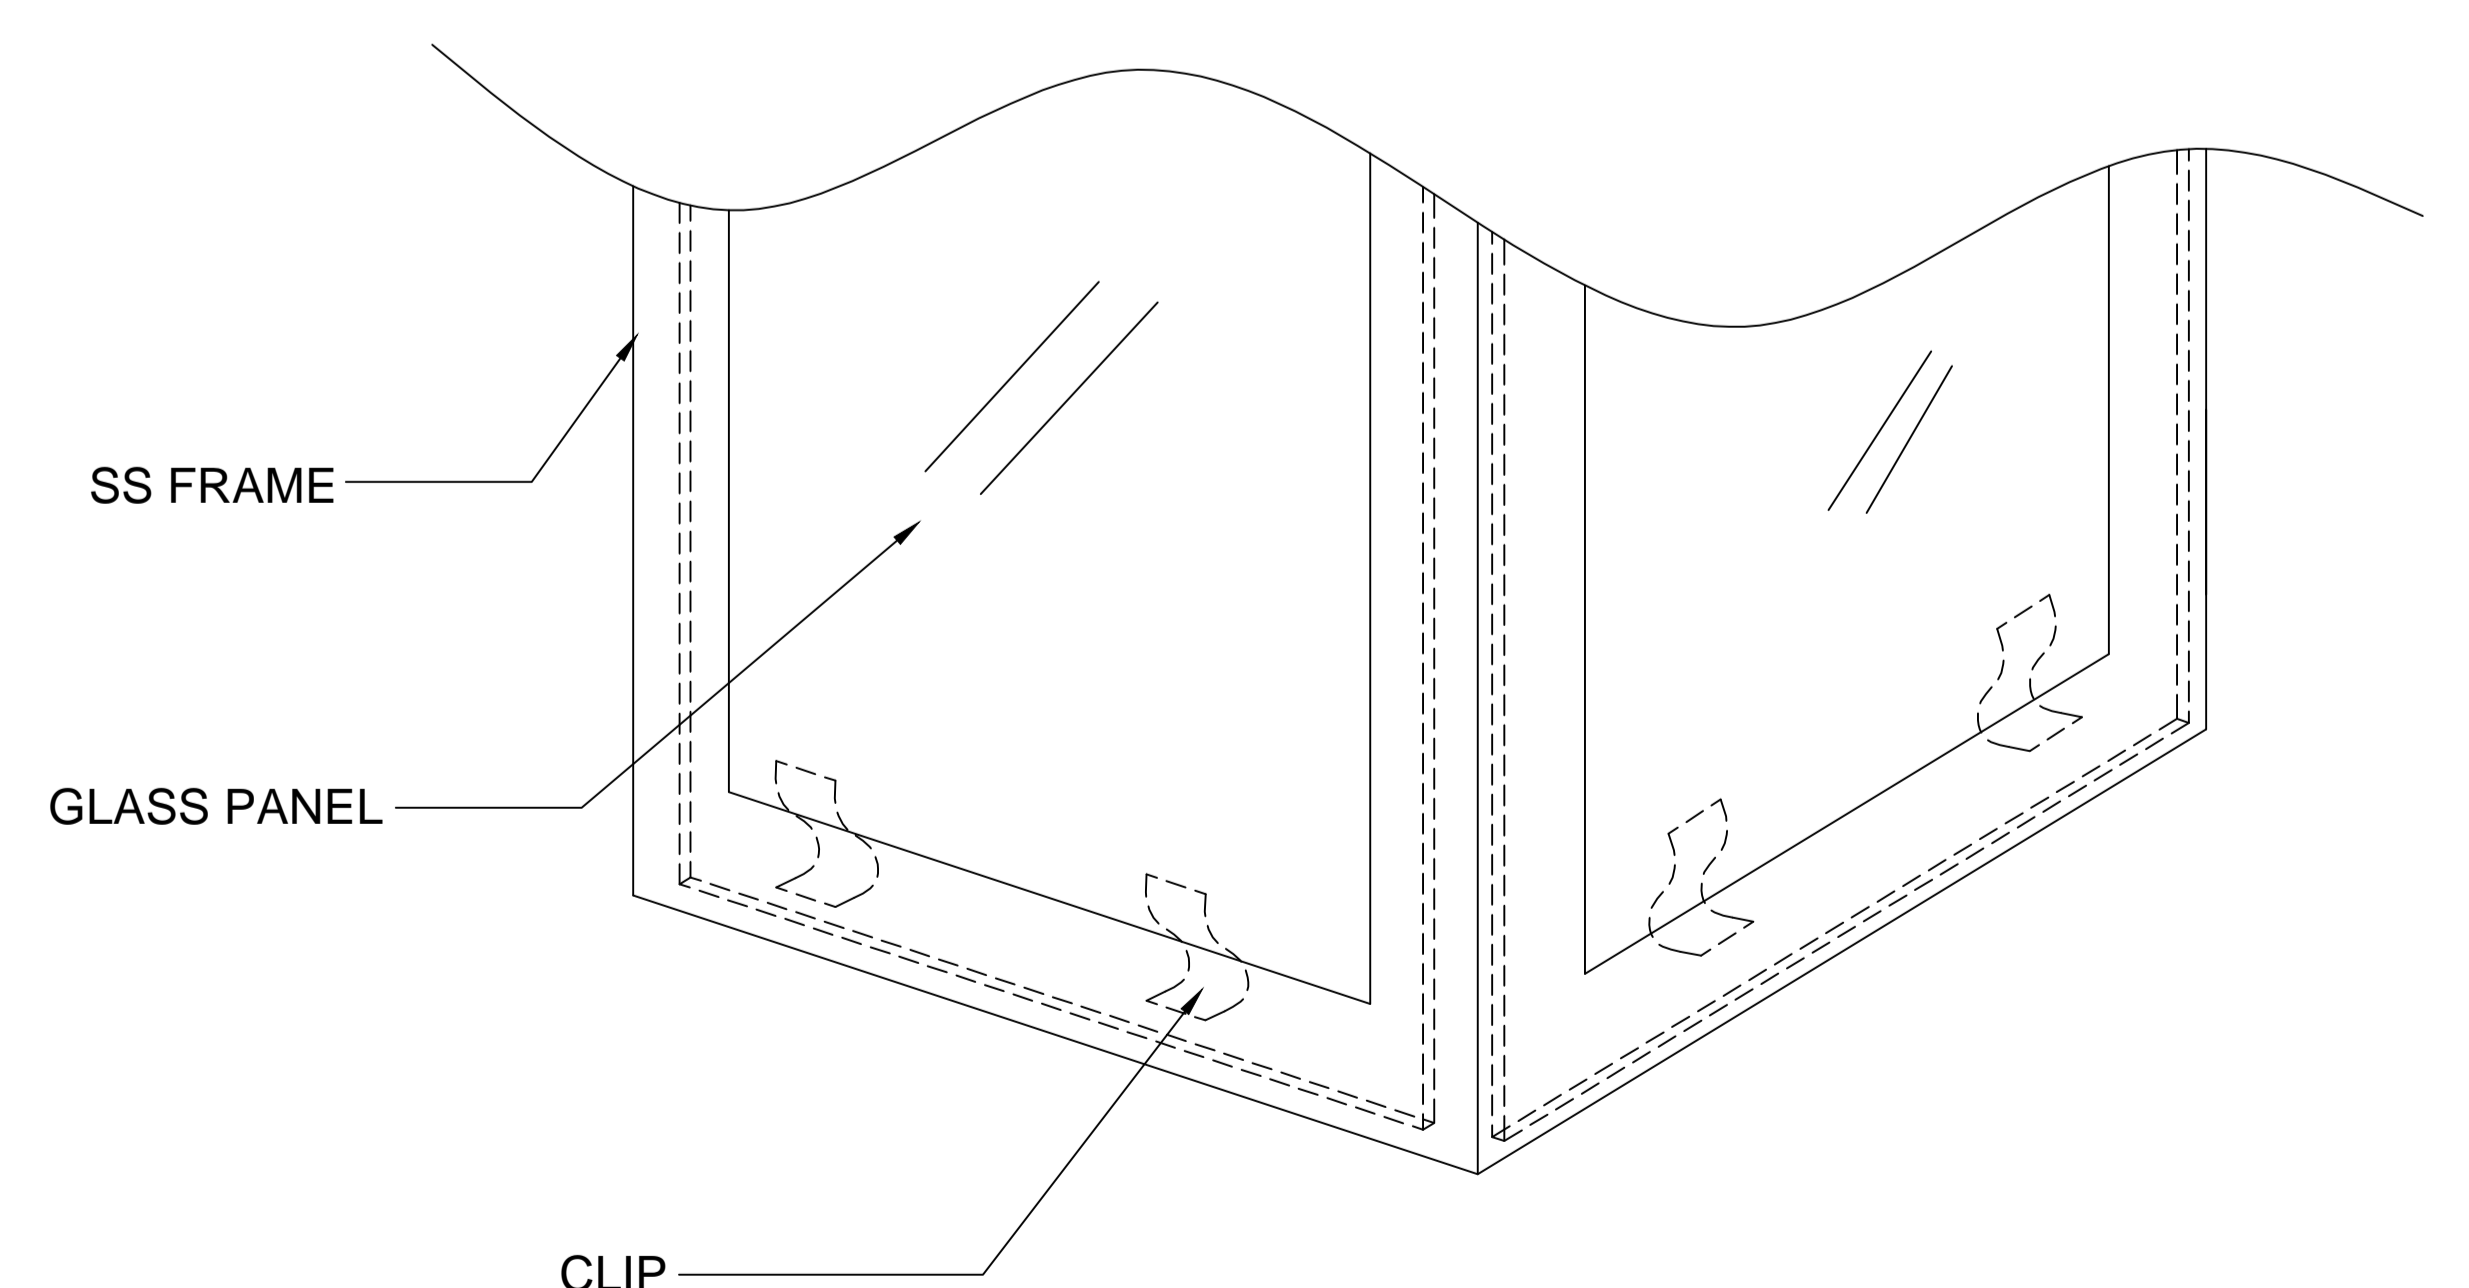

FIGURE-04
- Carefully insert the glass panel unto the fixture. Then secure it by flipping the metal tabs/clips (See Figure-04)